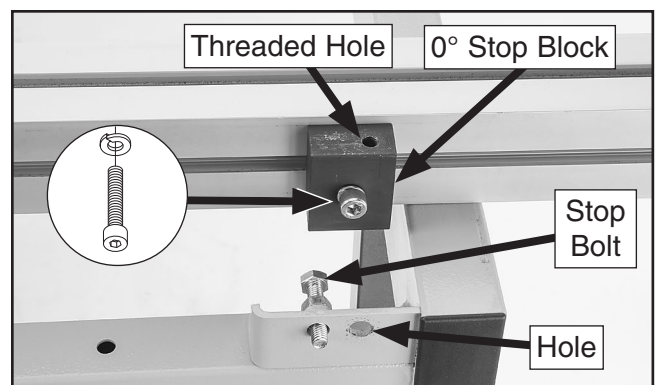

Figure 45. 90° stop block installed.
40. Attach 0° stop block to T-nut with (1) M8-1.25 x 35 cap screw and (1) 8mm lock washer (see **Figure 45**).
47. Align 0° stop block with stop bolt, and align threaded hole in block with hole to right of stop bolt (see **Figure 45** on **Page 30**).